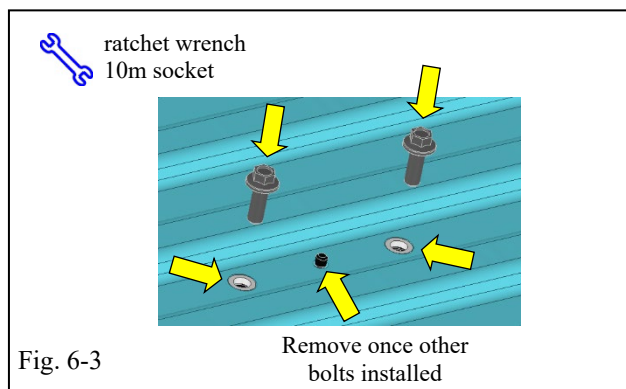

Fig. 6-3
- (e) Install spacers and both M8 bolts by hand tightening into each of the outer holes and removed M6 bolt from the bracket underside. (Fig. 6-3)